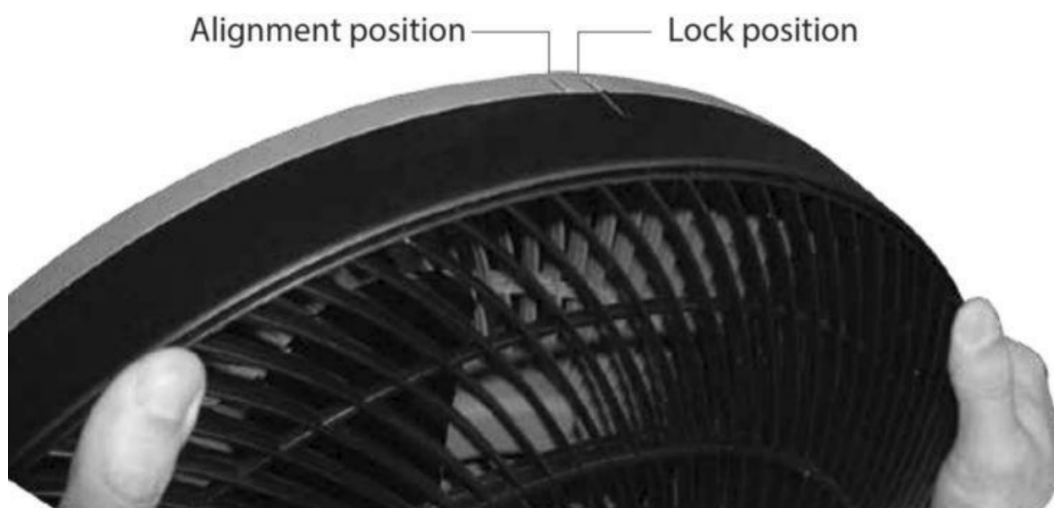

Fig.3
4. Fit front grille (#1) against rear grille (#5) by aligning the alignment mark on the top of the grilles, closing them together by the hooks on front grille and slots on the rear grille, twisting the front grille clockwise to the lock position (see Fig. 3), the snapping lock pin (#19) should pop in.